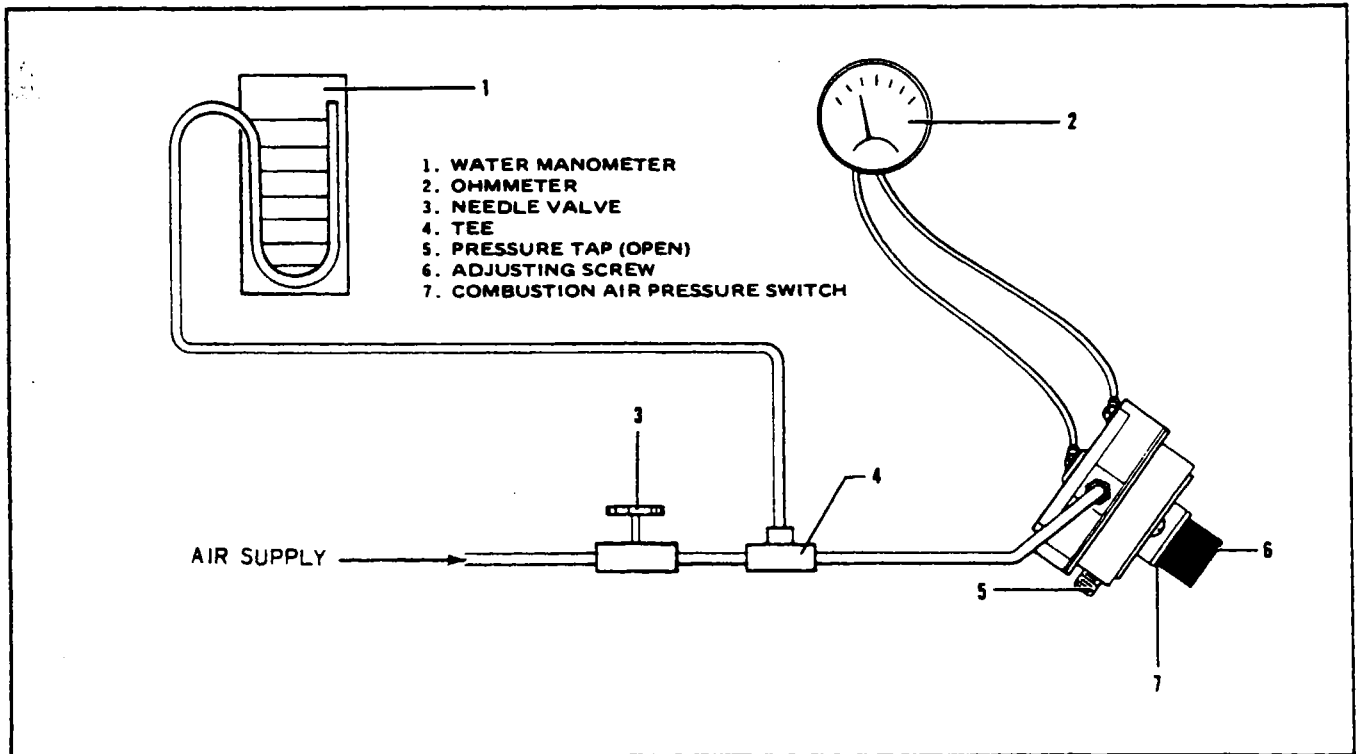

Figure 13-17. Test Setup for Combustion Air Pressure Switch
a. Discard all rubber parts such as grommets, gaskets, etc. These items should always be replaced at overhaul. Also discard the asbestos gasket (31).
d. The combustion air pressure switch (26) must respond to delicate pressure changes and should always be checked and/or replaced at overhaul. (Refer to Paragraph 13-63, c and Figure 13-17.)
1. Connect an adjustable air pressure line that can be controlled in a range of zero to 5.0 psi (maximum) of water to the switch opening with a water manometer and needle valve in the line ahead of switch. Switch must be tested in 45 degree position as shown in Figure 13-17.